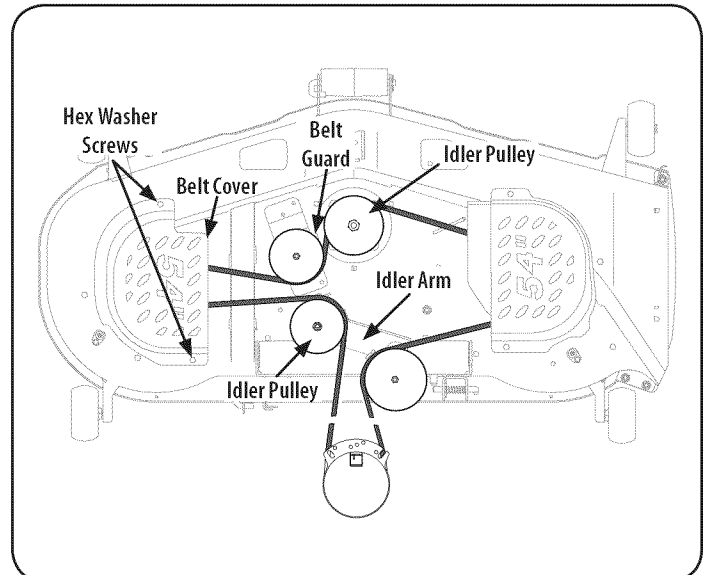

Figure 35
2. Remove the hex washer screws securing the belt covers to the deck. See Figure 35.
5. Install the new belt around the spindle pulleys as shown and reinstall the belt covers. See Figure 35.